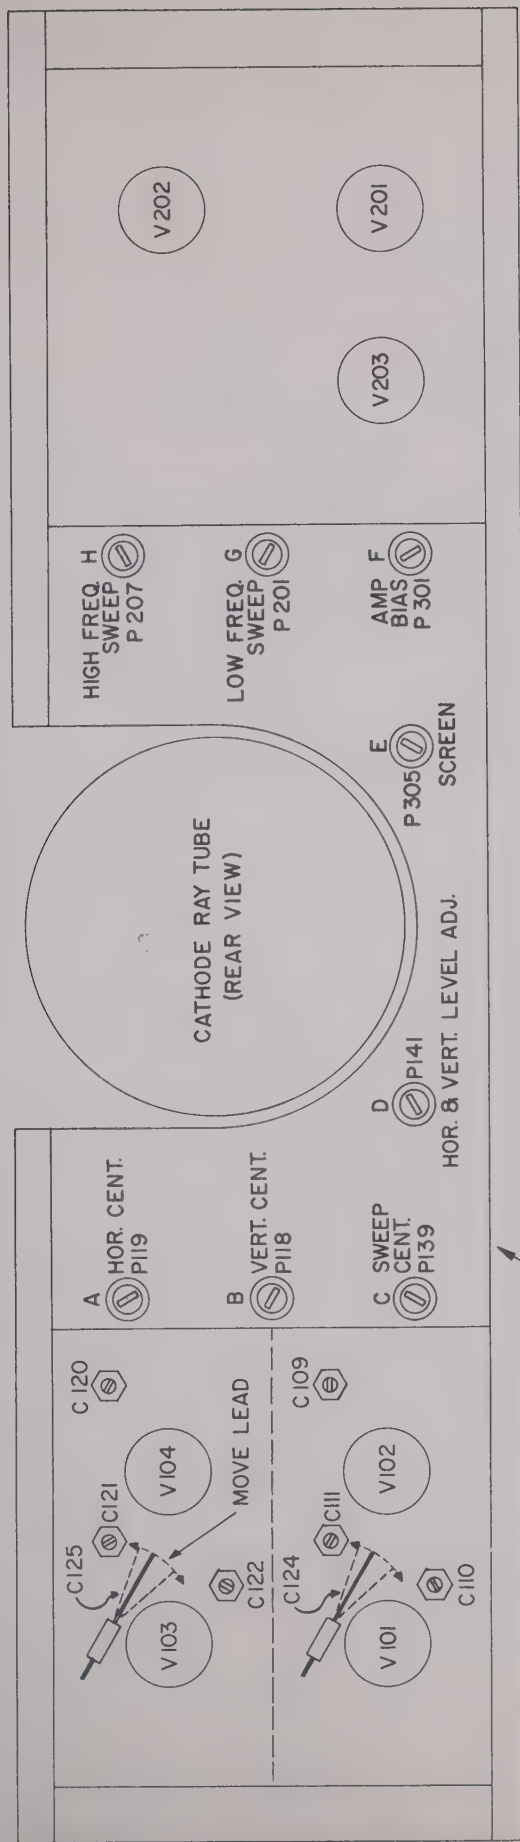

FIG. 3.1
1. VERT. CENT. CAL., P118 & HOR. CENT. CAL., P119: Set Horizontal function selector switch to AMP. position. Set horizontal and vertical gain controls to maximum (100). Set horizontal and vertical attenuator switches to X1K position. Set horizontal and vertical positioning controls to their approximate mechanical center. Adjust VERT. CENT. CAL. control P118 (See fig. 3.1) for zero voltage between the vertical deflection plates. Adjust HOR. CENT. CAL. control P119 (See fig. 3.1) for zero volts across the horizontal deflection plates.
2. HORIZONTAL AND VERTICAL DEFLECTION PLATE BALANCE ADJUST: P141: With the front panel controls set as above in section 1, adjust P141 (See fig. 3.1) until the vertical deflection plate voltages equal the horizontal deflection plate voltages as measured from ground.
3. AMP. BIAS (P301): With the front panel control set as in section 1 above, adjust AMP bias P301 (See fig. 3.1) until the vertical and horizontal deflection plate voltages are 200 volts as measured from ground.